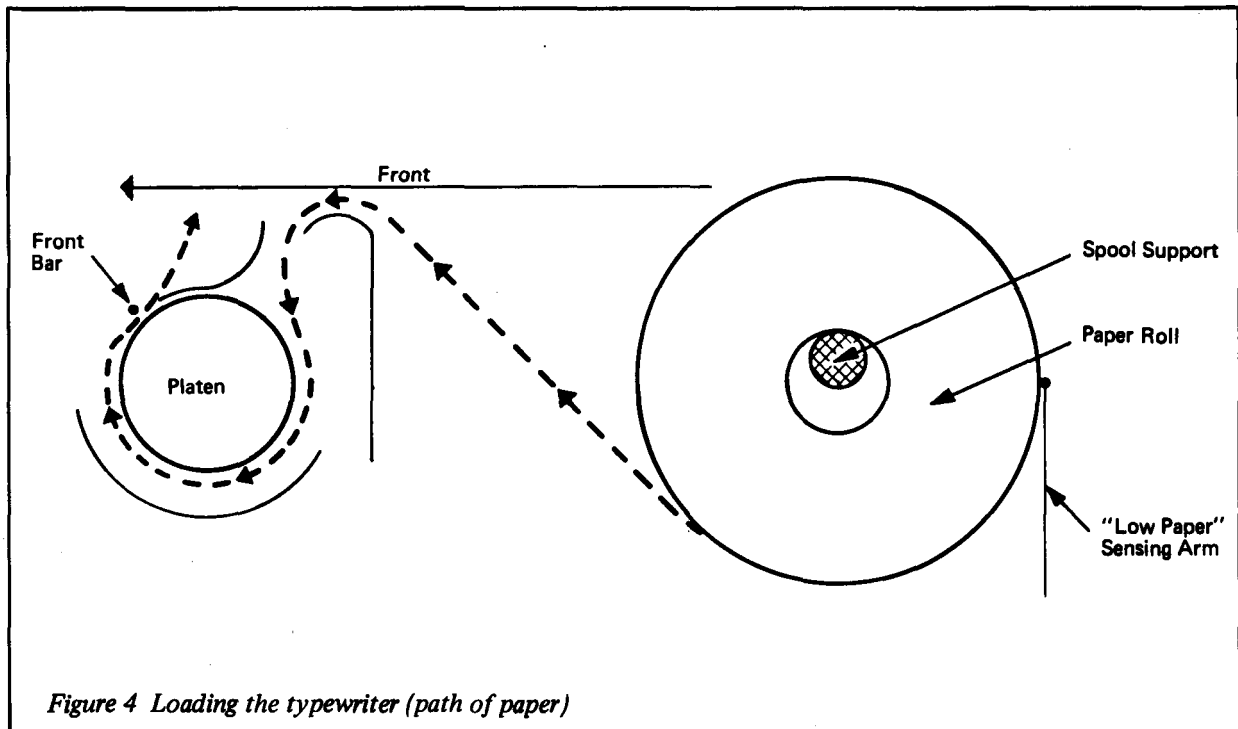

Figure 4 Loading the typewriter (path of paper)
- 8 Feed the paper under the platen (see Figure 4). It is easier if the leading edge of the paper is folded double before being fed through.